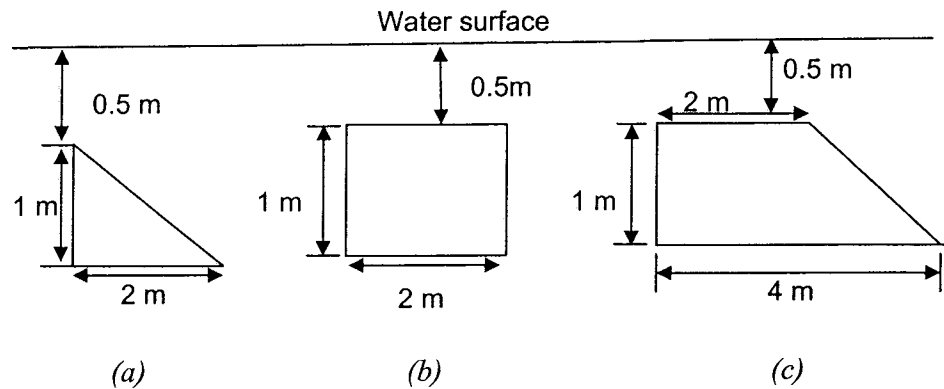

Figure 9
5. (a) Determine total force and location of centre of pressure in the following cases in Figure 9(a), (b) and (c).